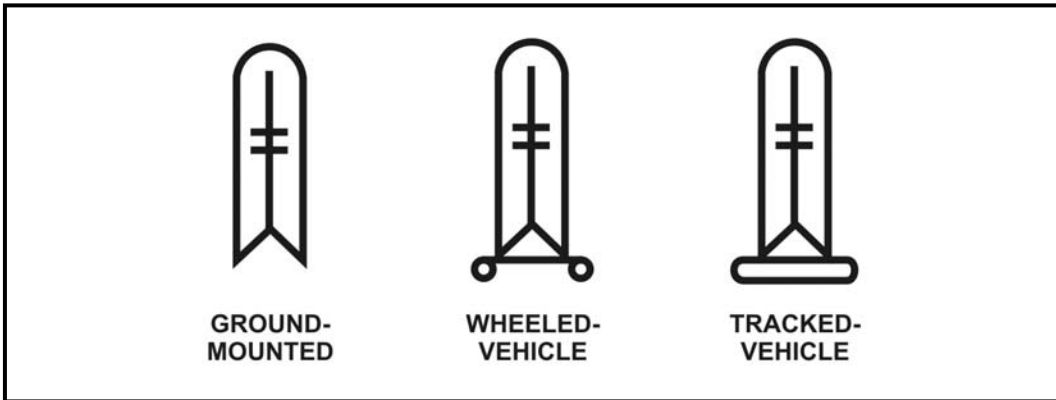

Figure D-9. Weapon symbols.
(2) **Weapon.** See Figure D-9 (page D-8) for weapon symbols.